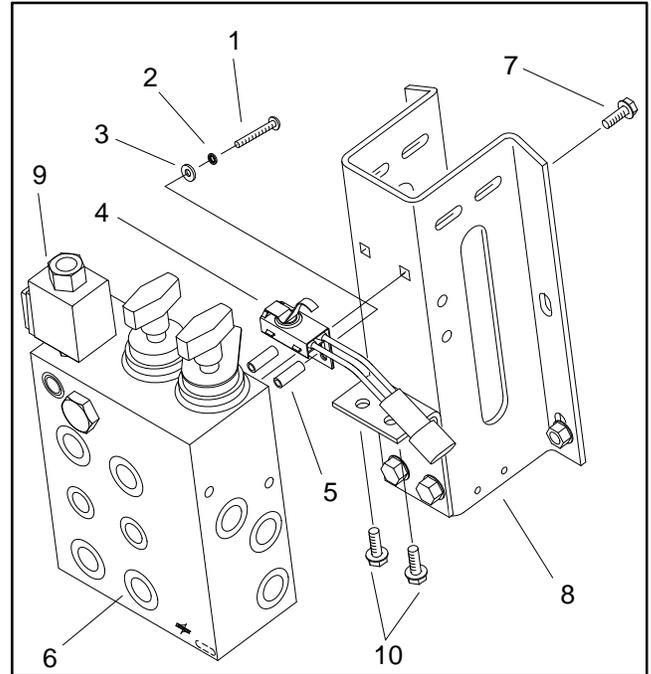

Figure 57
### Removal (Fig. 57)
3. If necessary, the hydraulic manifold can be removed (Figure 57):
A. Disconnect solenoid valve (9) and micro switch (4) electrical connectors.
D. Remove cap screws (10) from the hydraulic manifold.
E. Support hydraulic manifold (6) and remove flange screws (7) from the hydraulic manifold. Remove hydraulic manifold from the cylinder support bracket (8).
### Installation (Fig. 57)